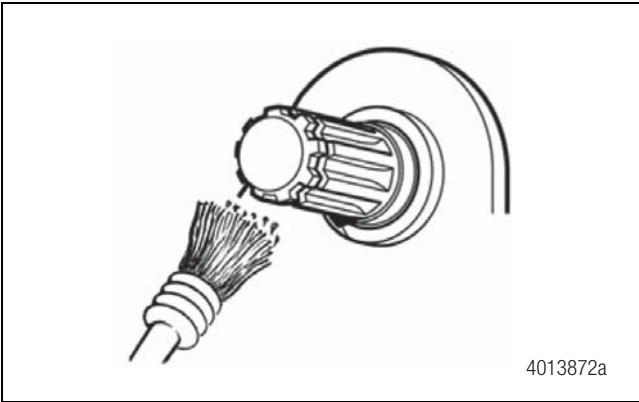

Figure 3
4. Coat the camshaft splines with anti-seize lubricant. Figure 3.